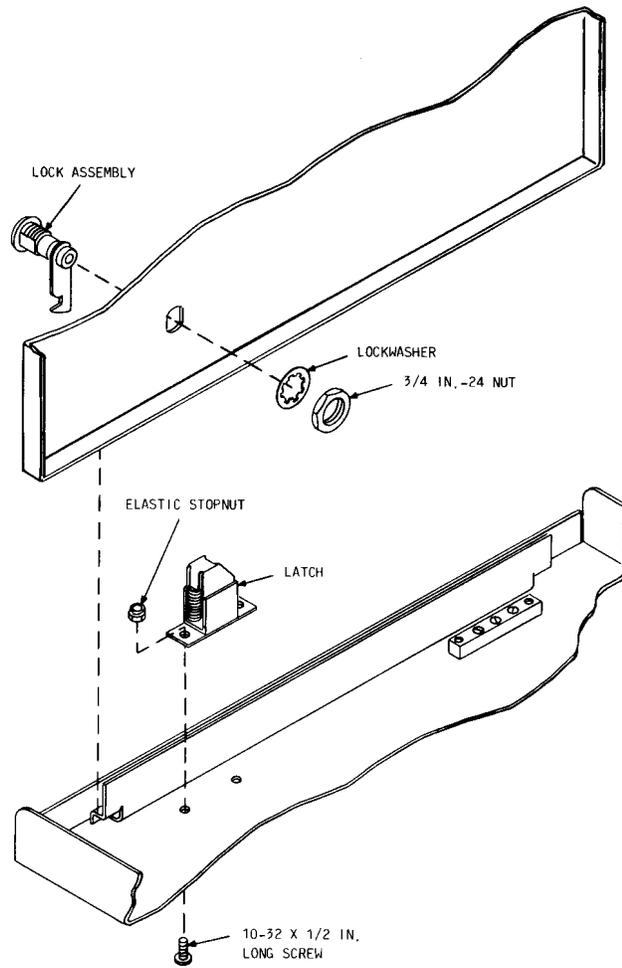

Fig. 16—Installing Lock Kit
4.03 Lock kits for the 3A-type cable terminal sections are installed as illustrated Fig. 16.